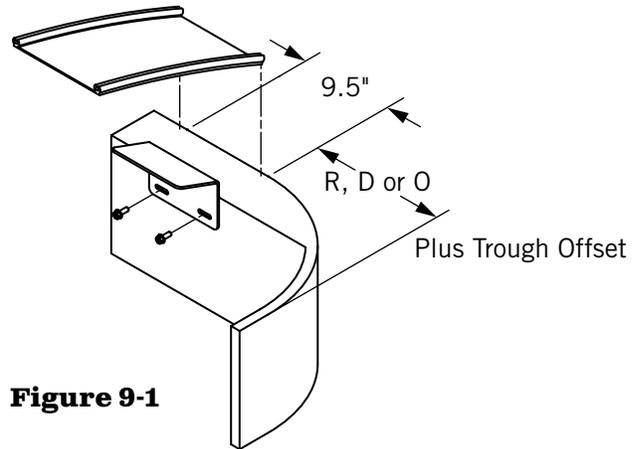

Figure 9-1
- 7) **Figure 9-1.** Position aluminum trough at the R, D, or O plus any trough offset specified on order.
- 8) **Figure 9-1.** Drill pilot holes for 3/8" x 1" type F and secure to trailer.